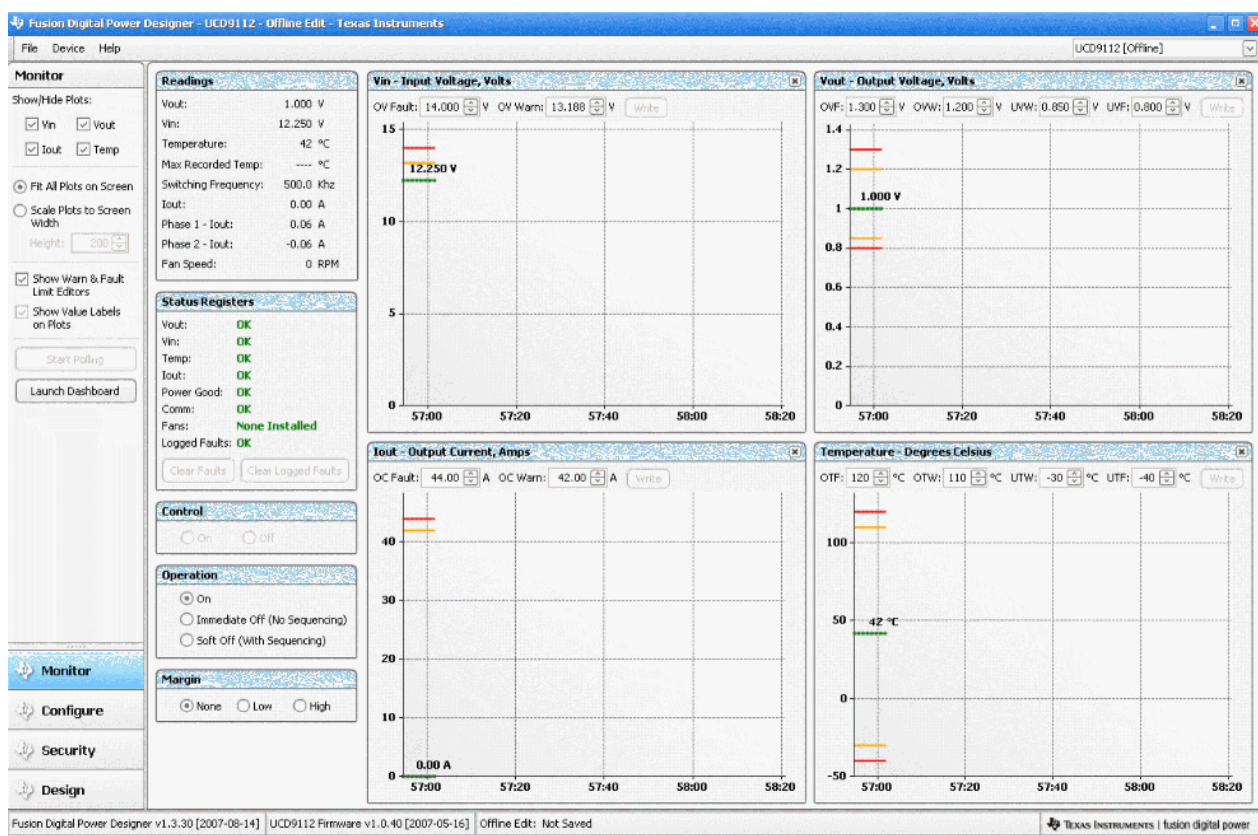

Figure 3. Graphical User Interface (GUI) Display
3. Double-click the GUI icon on the host. The GUI interface screen appears, as shown in Figure 3.
Turn on the output voltage (by default, set to 1 V) by clicking **ON** under the *Control* section as shown in Figure 3. Use the meter V2 to measure the output voltage as described in Section 6.3.3. Change the load current from 0 A to 40 A. If you record the voltage readings from V2, you can then calculate the load regulation.
- Step 1. Click *Configure* on the lower left portion of the screen (see Figure 3).